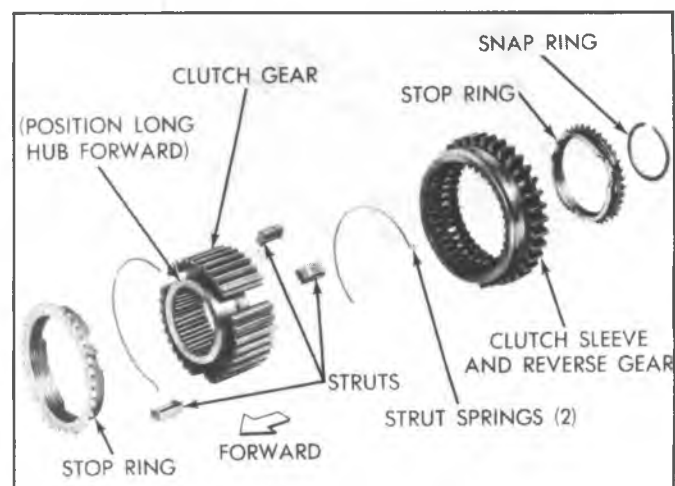

Fig. 12R--1st-2nd Synchronizer-Disassembled
1. If relation of hub and sleeve are not already marked, mark for assembly purposes. Refer to Fig. 12R and 13R.